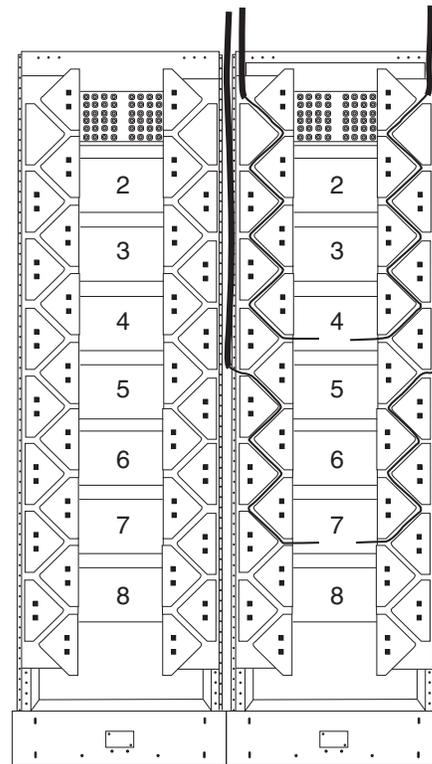

Figure 8
**10.4** Jumpers are fiber optic cables with connectors at both ends. Jumpers should be installed as specified on planning diagrams. Route jumpers from electronics through the routing triangles. If jumpers are feeding bottom four housings, route jumpers with cables and transition to the routing triangles to strain-relief (Figure 8).